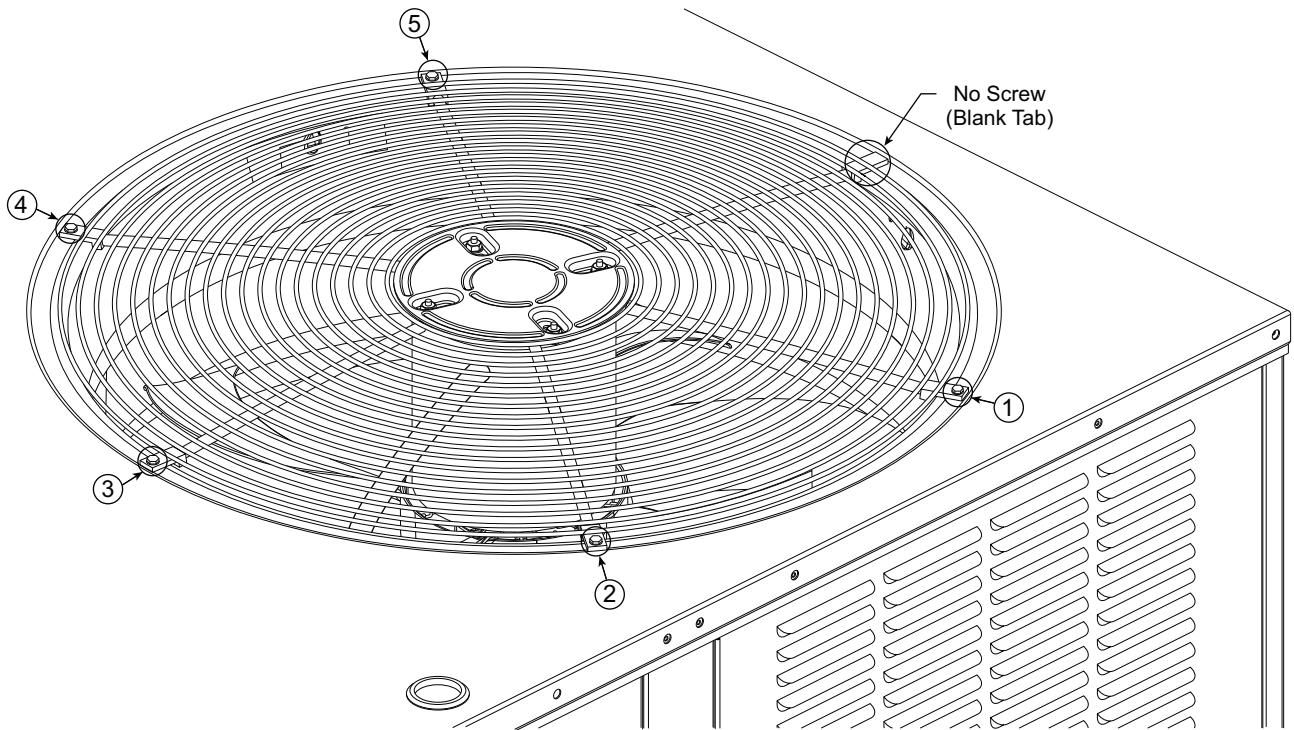

Fig. 31 – Condenser-Fan Assembly – Screw Pattern Sequence
6. Replace condenser-fan assembly. When replacing the condenser-fan assembly follow the screw pattern sequence shown in Fig. 31. The screws must be replaced in the sequence shown in the figure.